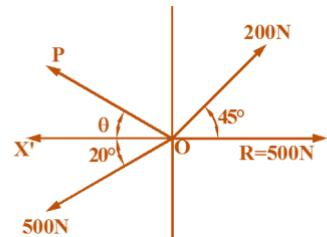

Fig.P1.12
9. The four coplanar forces are acting at a point as shown in fig. P1.12. The resultant is having a magnitude of 500N and is acting along  $X$ -axis. Determine the force  $P$  and its inclination with  $X$ -axis.